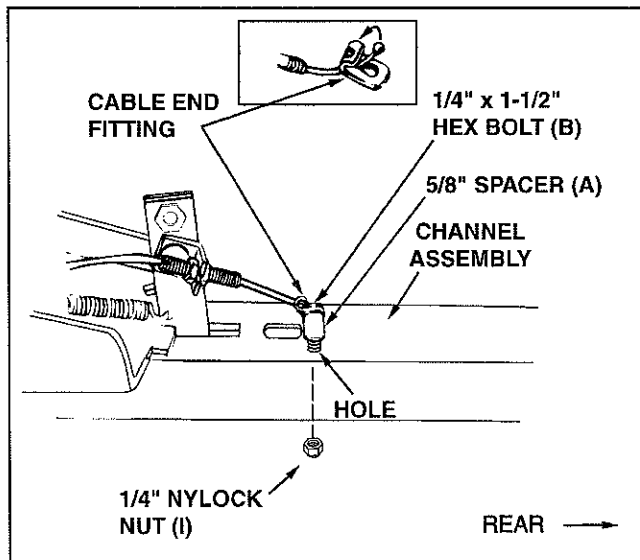

FIGURE 13 (Left Hand Side View)
23. Assemble ball end of control cable up through hole in cable end fitting and pull until ball slips inside curled edge of fitting. If ball won't slip under edge of curl, it will need to be inserted through open end of curl. See figure 13.
24. Assemble 1/4" x 1-1/2" (B) hex bolt down through the cable end fitting, the 5/8" long spacer (A) and the left hand hole in the channel assembly. Secure with a 1/4" nylock nut (I). **Tighten.** See figure 13.